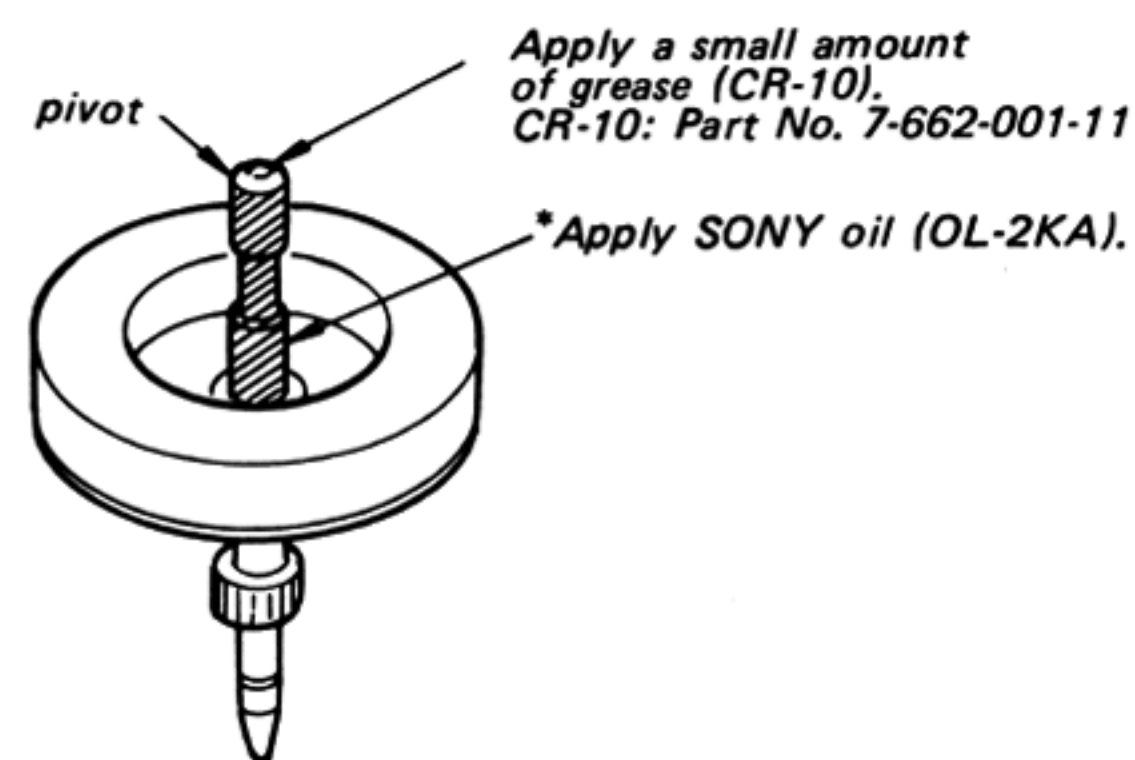

Fig. 5-2
1. When the motor shaft is replaced, apply a small amount of grease (CR-10) in the pivot and apply SONY oil (OL-2KA) to the portion marked by \* in Fig. 5-2.